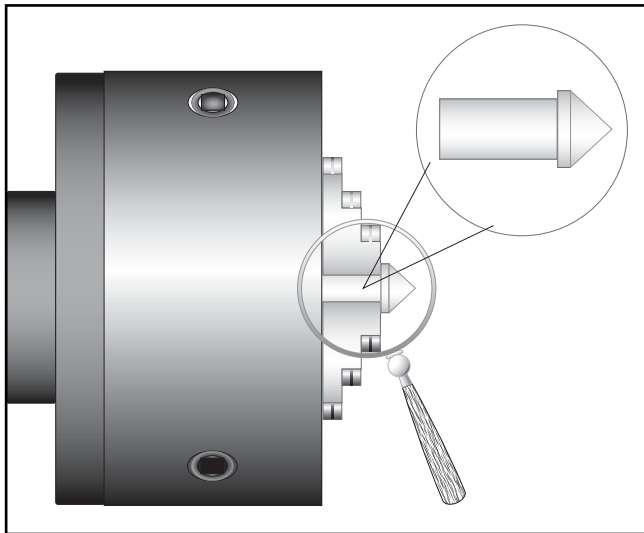

Figure 28. Finished dead center.
2. Make a dead center by turning a shoulder to make a shank. Flip the piece over in the chuck and turn a 60° point. **See Figure 28.** As long as it remains in the chuck, the point of your center will be accurate to your spindle's axis. Keep in mind that the point will have to be refinished whenever it is removed and returned to the chuck.